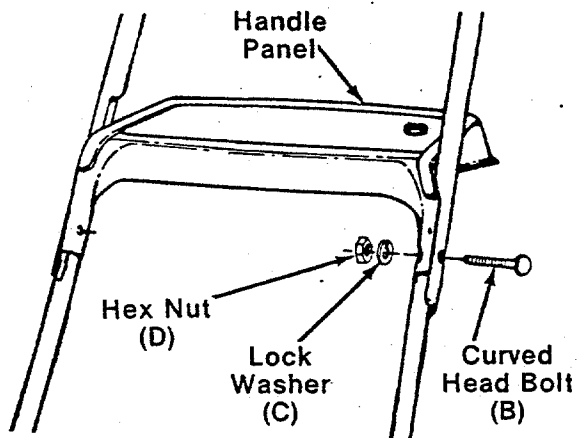

FIGURE 4.
5. Place the handle panel and upper handle in position over the lower handle. The control housing must be on the left hand side of the handle. Secure the left hand side of upper handle using one curved head bolt (B), lock washer (C) and hex nut (D) as shown in figure 4.